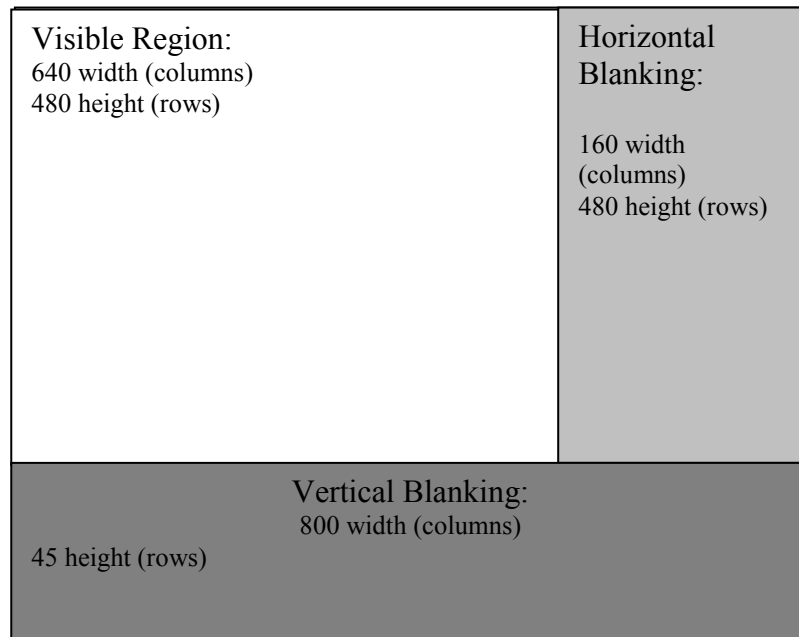

Figure 2. Display Regions
In this lab, you are required to create a 640 pixel x 480 pixel screen display. A pixel clock operating at 25 MHz will be used. To get 640 pixels horizontally, a horizontal synchronization frequency of approximately 31.5 KHz is required. This corresponds to approximately 800 clock periods of the pixel clock. During the first 640 clock periods of the pixel clock for a row, visible pixels can be displayed; however, the last 160 clock periods for the row are called the “retrace period” or “blanking region” where nothing is displayed while the beam retraces back to the left of the screen. To get 480 pixels vertically, a vertical synchronization frequency of 60 Hz is required. This corresponds to approximately $(800 \times) 525$ clock periods of the pixel clock. This can be thought of as generating 480 visible rows followed by 45 blank rows during which the beam retraces back to the top of the screen. This is illustrated in Fig. 2.
- Generate a signal to determine whether the pixel is in the visible region as illustrated in Figure 2.